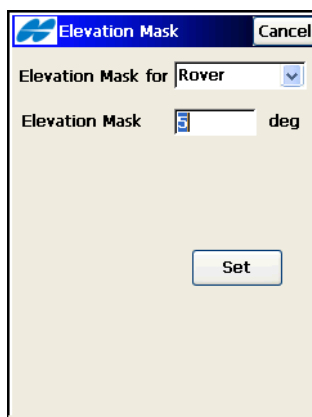

Figure 8-13. Elevation Mask
- *(H) HRMS* and *(V) VRMS* –the RMS¹ values of the horizontal and vertical coordinates for the last epoch of observation, respectively.
- **Settings** – opens the *Elevation Mask* screen (Figure 8-13).
The *Elevation Mask* screen (Figure 8-13) sets the value for the minimum threshold; data from satellites below this elevation angle are not used.